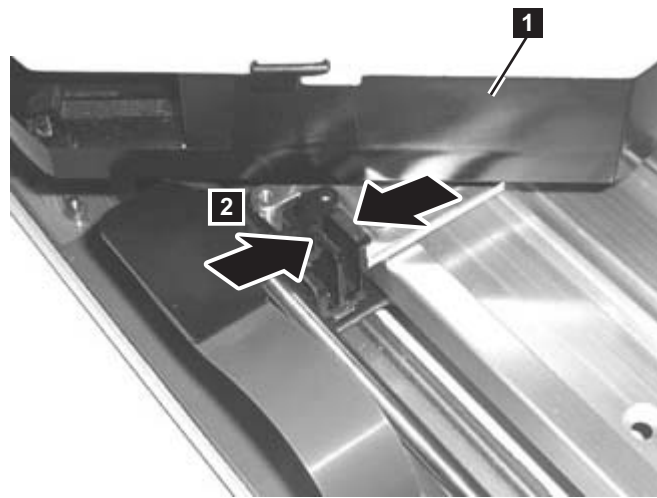

Figure 8-52. Flat cable connector
5. Facing the library, rotate the Picker Assembly until the front of the Picker Assembly is oriented approximately 45 degrees right of center, as seen from the top of the library, to access the flat cable connector (**1** in Figure 8-52).
6. Pinch the top of the connector (**2** in Figure 8-52) and lift up to disconnect it.
3. Facing the library, rotate the Picker until the front of the Picker Assembly is oriented approximately 45 degrees right of center, as seen from the top of the library, to access the flat cable connector (**1** in Figure 8-52 on page 8-55).
4. Pinch the top of the connector (**2** in Figure 8-52 on page 8-55) and connect it.
4. Rotate the Picker Assembly with the grippers pointing toward 11 o’clock (**1** in Figure 8-52 on page 8-55) to expose the flat cable connector.
5. Pinch the top of the connector (**2** in Figure 8-52 on page 8-55) and lift up to disconnect it.
4. Rotate the Picker Assembly with the grippers pointing toward 11 o'clock (**1** in Figure 8-52 on page 8-55) to expose the flat cable connector.
5. Plug in the connector (**2** in Figure 8-52 on page 8-55).